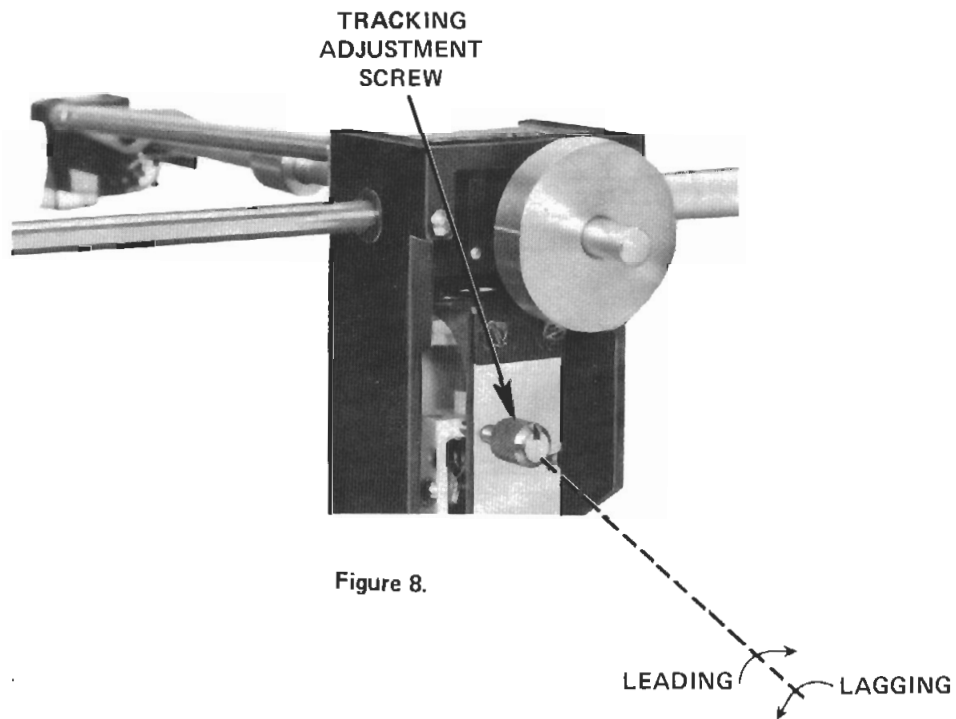

Figure 8.
D. Method of Adjustment (Refer to figure 8)